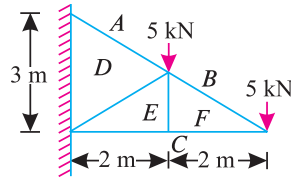

Fig. 14.36.
2. Find the forces in all the members of a cantilever truss shown in Fig. 14.36.